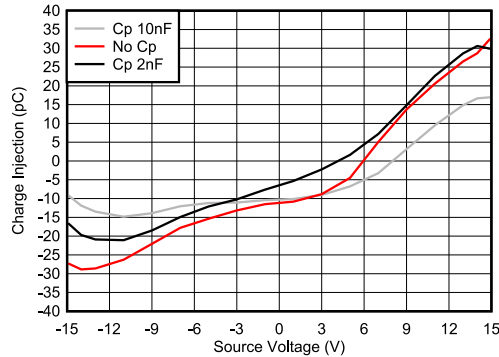

Figure 8-2. Charge Injection Compensation
The TMUX7234 contains specialized architecture to reduce charge injection on the source (S_x). To further reduce charge injection in a sensitive application, a compensation capacitor (C_p) can be added on the drain (D). This will ensure that excess charge from the switch transition will be pushed into the compensation capacitor on the drain (D) instead of the source (S_x). As a general rule of thumb, C_p should be 20x larger than the equivalent load capacitance on the source (S_x). Figure 8-2 shows charge injection variation with different compensation capacitors on the drain side. This plot was captured on the TMUX7219 as part of the TMUX72xx family with a 100pF load capacitance.